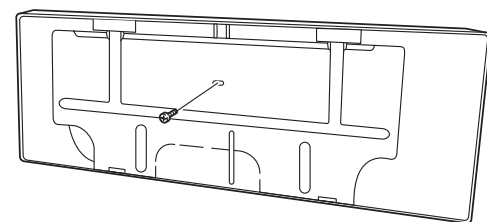

Fig. 2-155
- (1) Remove and discard the set screw on the rear panel. (Fig. 2-155)